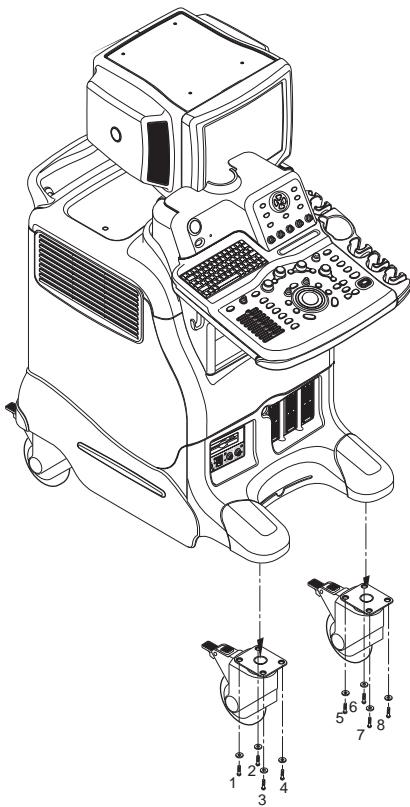

Figure 8-75 Removing the Front Caster
- 1.) Unscrew eight (8) hexagonal bolts (1-8).
- 2.) Remove the Front Caster. Refer to Figure 8-75.